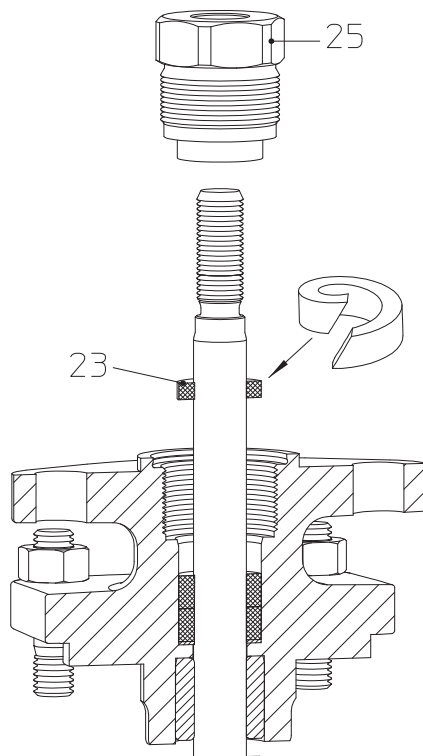
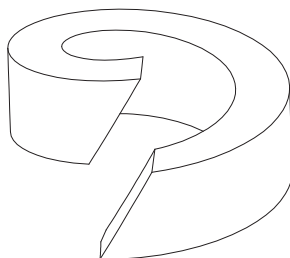

Fig. 20: Stuffing box packing
Fig. 22: Split packing ring
- Insert new packing ring as shown in Fig. 20 - Fig. 22.
If a split packing ring is used, cut with a chamfer as shown in Fig. 22.